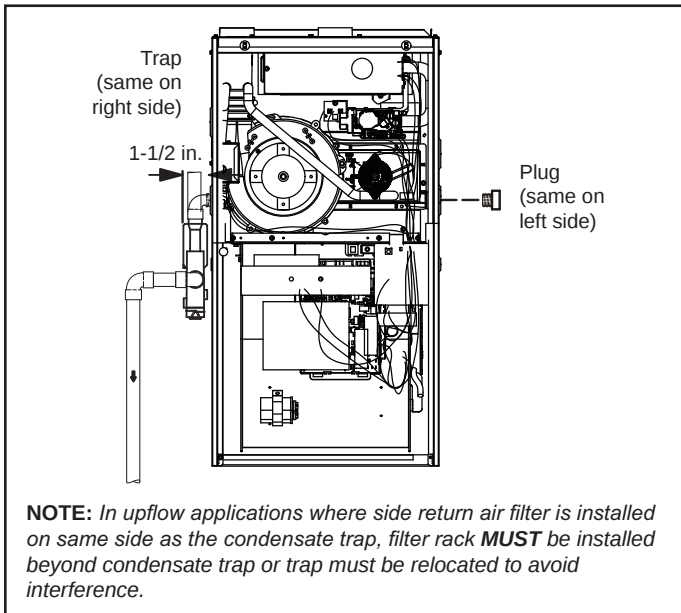
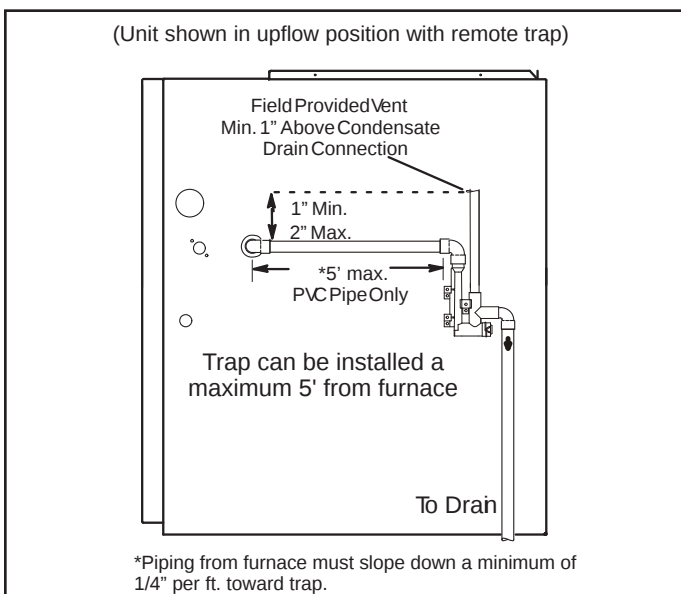
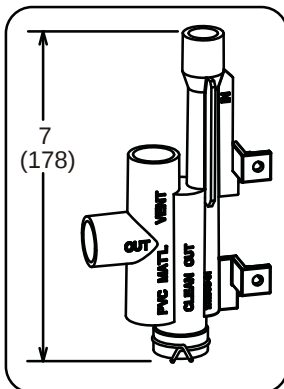

Figure 37. Condensate Trap and Plug Locations (unit shown in upflow position)
Figure 38. Condensate Trap Locations
Figure 46. Trap / Drain Assembly Using 1/2" PVC or 3/4" PVC Cold End Header Box with 1/2 Drain Connection
This unit is designed for either right- or left-side exit of condensate piping in upflow applications. In horizontal applications, the condensate trap must extend below the unit. An 8" service clearance is required for the condensate trap. Refer to Figure 37 and Figure 38 for condensate trap locations. Figure 45 and Figure 46 show trap assembly using 1/2" PVC or 3/4" PVC.
2. Use a large flat head screw driver or a 1/2" drive socket extension and remove plug (Figure 37) from the cold end header box at the appropriate location on the side of the unit. Install provided 3/4 NPT street elbow fitting into cold end header box. Use Teflon tape or appropriate pipe dope.
3. Install the cap over the clean out opening at the base of the trap. Secure with clamp. See Figure 45 and Figure 46.
4. Install drain trap using appropriate PVC fittings, glue all joints. Glue the provided drain trap as shown in Figure 45 and Figure 46. Route the condensate line to an open drain. Condensate line must maintain a 1/4" downward slope from the furnace to the drain.